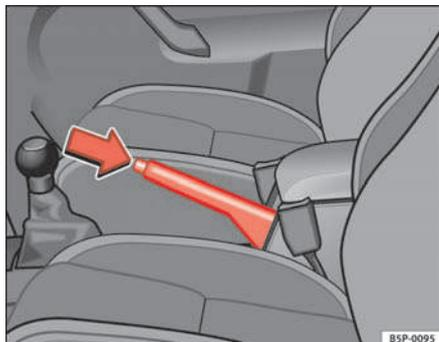

Fig. 101 Handbrake between the front seats
- Pull the handbrake lever up firmly ⇒ **fig. 101**.
- Pull the lever up slightly and press the locking knob in the direction of the arrow ⇒ **fig. 101** and guide the handbrake lever down fully ⇒ .